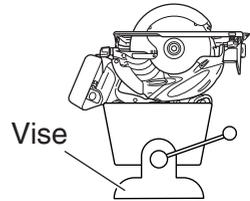

Fig. 7
32. Never attempt to saw with the circular saw held upside down in a vise. This is extremely dangerous and can lead to serious accidents (Fig. 7).